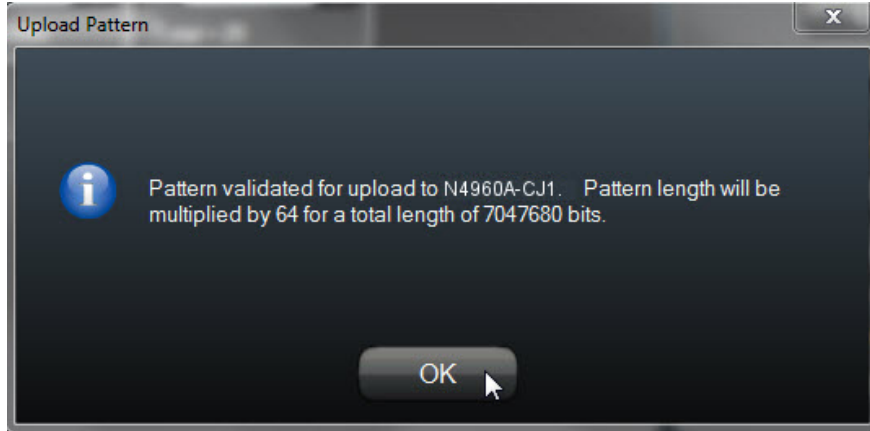

Figure 92. Validate pattern message
2. Click on the **Validate Pattern** button. Figure 92 is an example of a message indicating that the pattern length of the pattern sequence will be increased to meet the requirements. In this case, clicking the **OK** button is the only action required by the user.